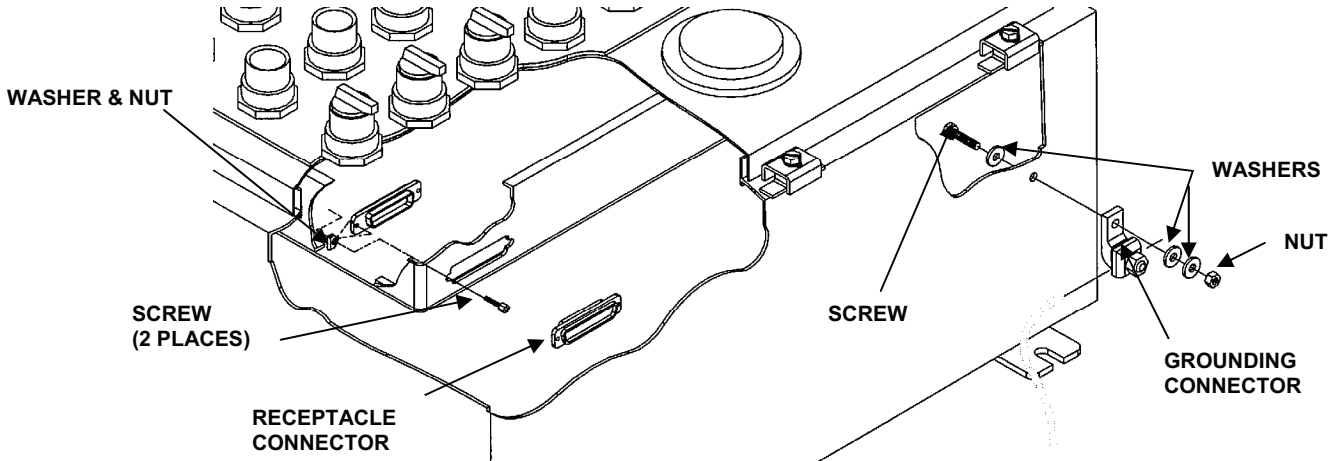

Figure 7. Ground Connector/Receptacle Connector.
2. Remove cable connector from control module. See Figure 7.
3. Remove 22 wire contacts from receptacle connector. See Figure 7.
4. Remove two (2) screws, lock washers, and nuts from receptacle connector.